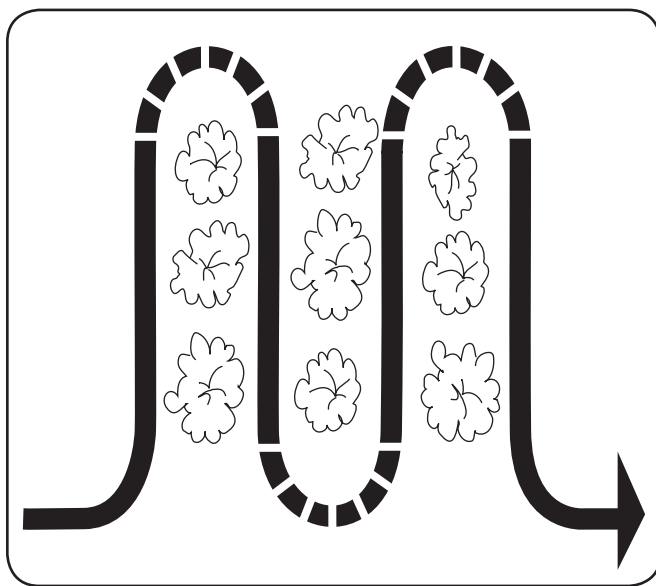

Figure 5-6
- When cultivating (breaking up the surface soil around the plants to destroy weeds, see Figure 5-6), adjust the tines to dig only 1" to 2" deep. Using the shallow tilling depth helps prevent injury to the plants whose roots often grow close to the surface. If needed, lift up on the handlebars slightly to prevent the tines from digging too deeply. (Cultivating on a regular basis not only eliminates weeds, it also loosens and aerates the soil for better moisture absorption and faster plant growth.) Watering the garden area a few days prior to tilling will make tilling easier, as will letting the newly worked soil set for a day or two before making a final, deep tilling pass.